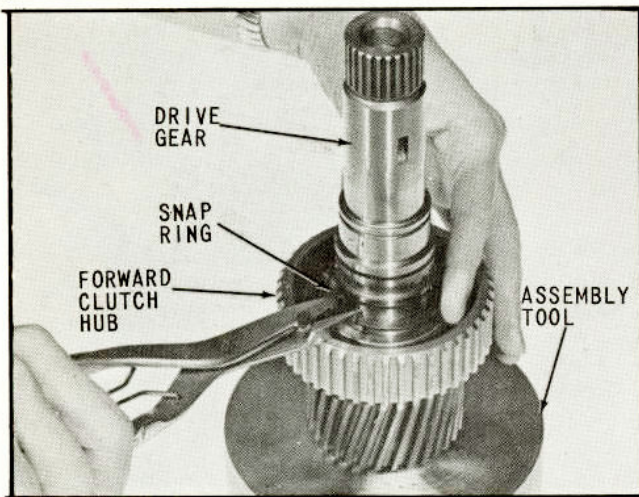
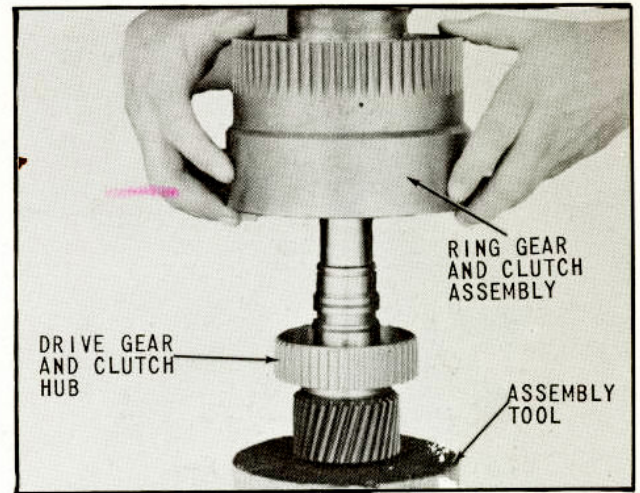

Fig. 42 Installing Clutch Hub Snap Ring
Fig. 44 Assembling Ring Gear and Clutch Assembly on Drive Gear
38. Invert the parts referred to in step 34 and install snap ring in the groove provided, (Fig. 42). Tap ring after assembly with suitable tool to insure full seating in groove.
40. With drive gear and clutch hub in assembly tool as shown in (Figs. 42 and 43), place ring gear and forward clutch assembly over drive gear as shown in (Fig. 44).